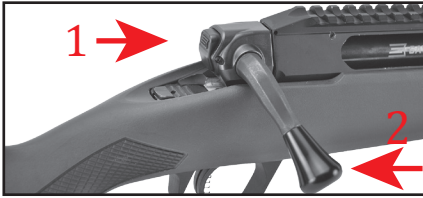

Figure 8
and pull rearward on the **Bolt Handle** – see Figure 8.
3. Be sure to keep fingers and other objects away from the trigger and trigger guard area. If the firearm has been fired, pull rearward on the **Bolt Handle** to remove the fired shell. If the firearm has not been fired, press forward on the top of the **Quick Release Button** with your thumb and pull rearward on the **Bolt Handle** – see Figure 8 in section 2.3 – to remove the unfired shell.